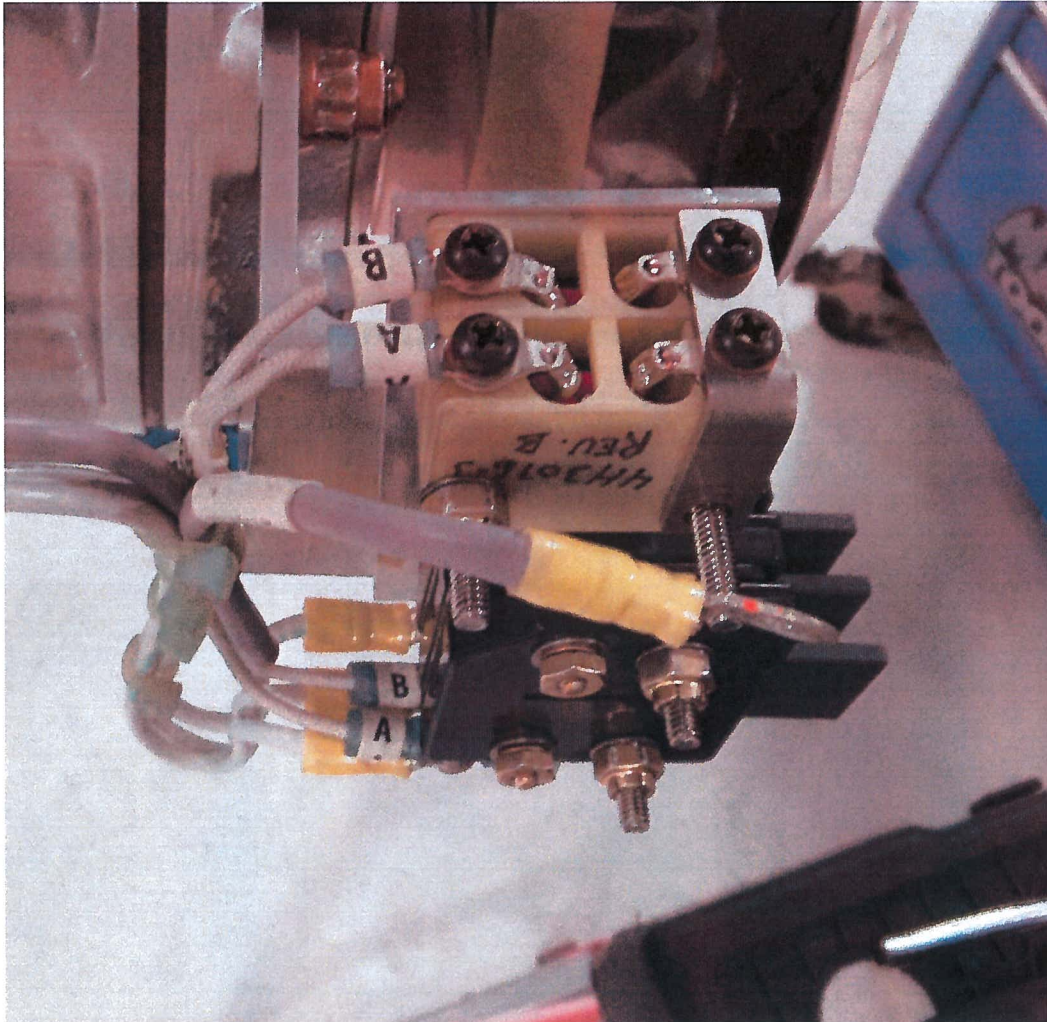

Figure 6
- g) Install MOV module onto the MOV mounting plate as shown in **Figure 6** using the following procedure: